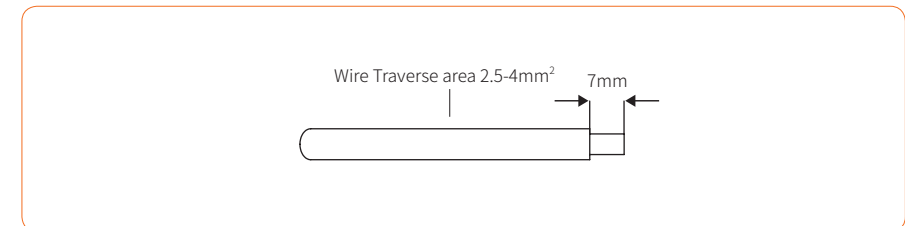

Figure 4-9
② Peel off the DC cable insulation sleeve for 7 mm, as shown in Figure 4-9: